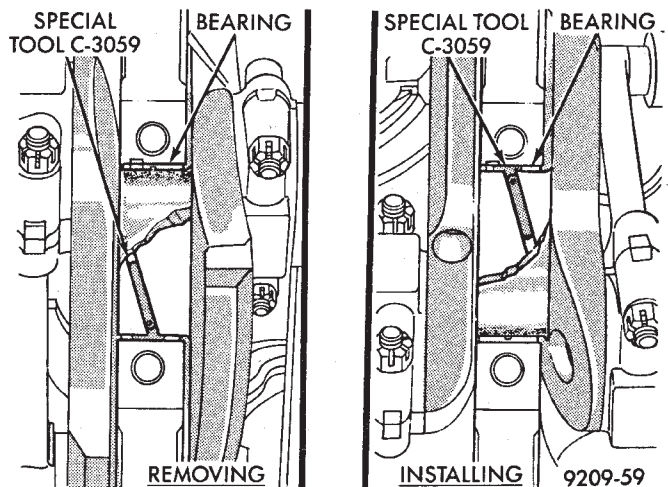

Fig. 3 Removing and Installing Upper Main Bearing With Special Tool C-3059
(1) Remove oil pan and identify bearing caps before removal.
(2) Remove bearing caps one at a time. Remove upper half of bearing by inserting Special Main Bearing Tool C-3059. (Fig. 3) into the oil hole of crankshaft.
(3) Slowly rotate crankshaft clockwise, forcing out upper half of bearing shell.
(1) Start bearing in place, and insert Main Bearing Tool C-3059 into oil hole of crankshaft (Fig. 3).